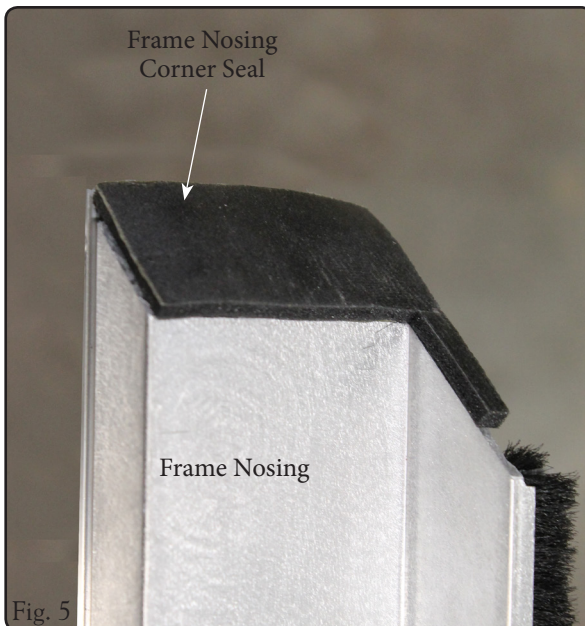

Fig. 5
- Apply the frame nosing corner seals to the top corner (45° angle) each side jamb. (Fig. 5)